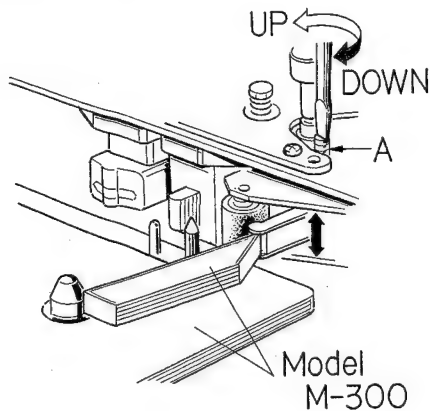

Fig. 5.13 Tape Guide Height Adjustment
- (1) Load with care the Tape Guide Height Measurement Jig (Model No. M300 from Information Terminals).
- (2) Refer to Fig. 5.13, and adjust the tape guide height adjusting screw A so that the tape guide may become fixed to the jig.